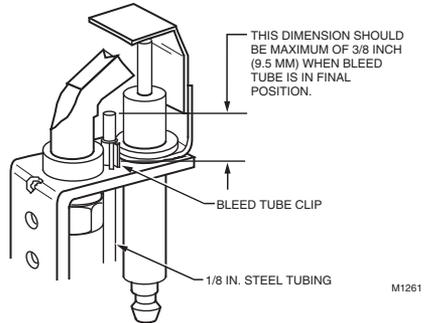

Fig. 4. Install bleed gas tube.
- Push clip into place. See Fig. 4.